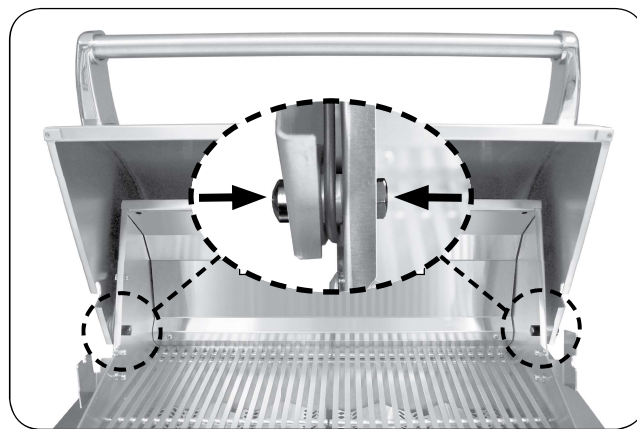

Fig. 3-4 Secure hood with nuts and bolts
9. Align the hood, insert the two bolts, and fully secure with nuts as shown in Fig. 3-4.